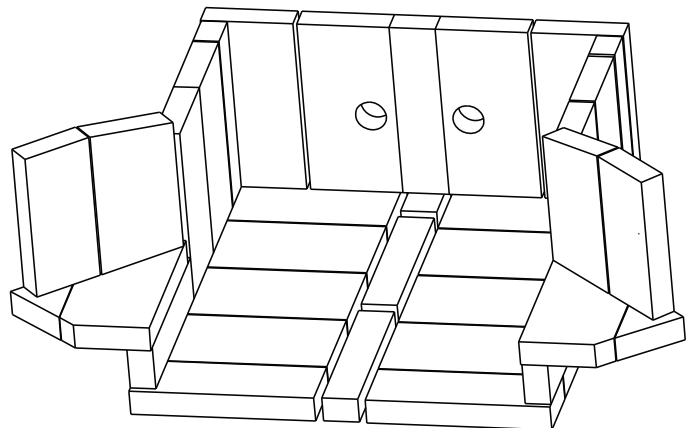

Figure 5
6. Completed brick assembly inside of firebox should appear as shown in **Figure 5**.